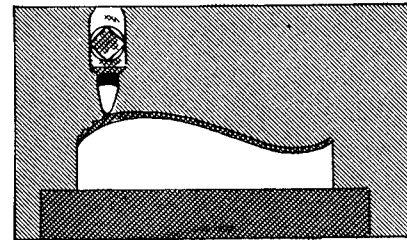

FIG. 516
5. Continue to move the work to the right until the tool is $1/32$ " beyond the point where the contour line drops away from the horizontal line (Fig. 516).